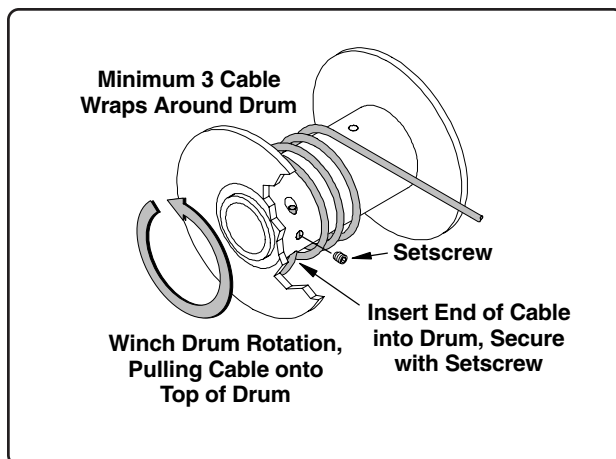

Fig. 2
**Note:** The direction of drum rotation should be so that the cable wraps around the drum in the same direction as it was attached to the drum (refer to Fig 2 below).